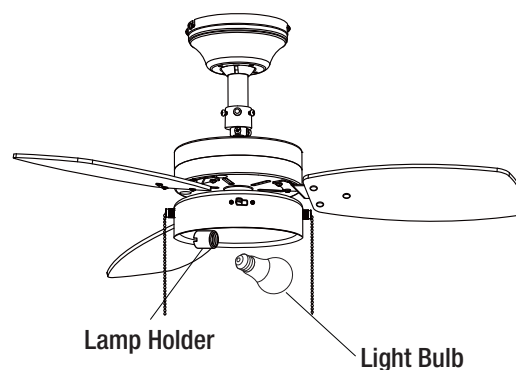

Figure 12
- Install a light bulb (max. 9W, LED, medium screw base) to the lampholder (Figure 12).